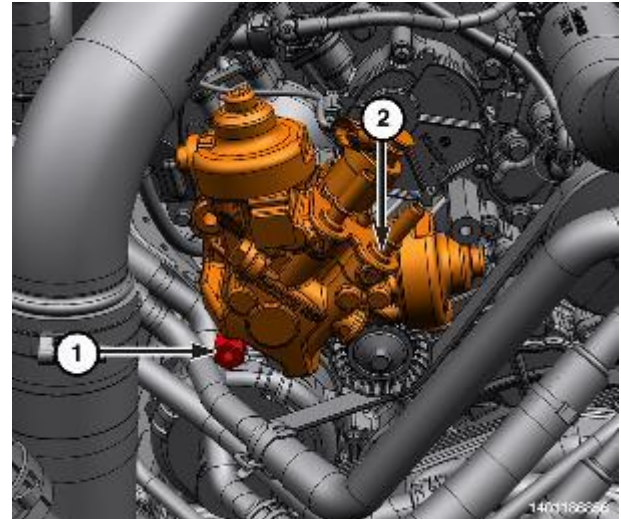

Figure 174 – HPFP Bolt
43. Install the HPFP (2) onto the Tool, High Pressure Pump Installation VM.10345 installed in the upper timing cover (Figure 174).
44. Install the HPFP (2) and hand tighten the bolt (1) (Figure 174).
46. Tighten the bolts (1) that secure the high-pressure pump to 25 N·m (18 Ft. Lbs.).